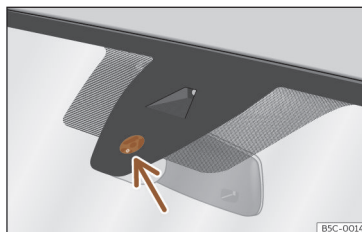

Fig. 96 Sensitive surface of the rain sensor.
The possible causes of anomalies and erroneous interpretations in the sensitive surface area >>> Fig. 96 of the rain sensor are, among others:
- **Dirt:** dry dust, wax, coating on glass (Lotus effect) or traces of detergent (car wash) may reduce the effectiveness of the rain sensor or make it react more slowly, later or not at all. Regularly clean the sensitive surface of the rain sensor >>> Fig. 96 (arrow) and check for possible damage to the wiper blades.